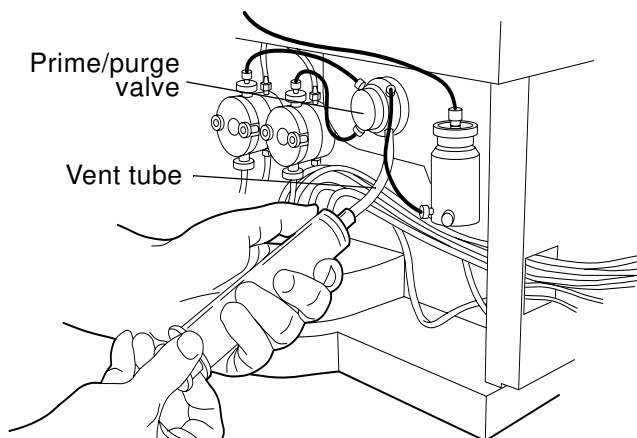

Figure 3-18 Syringe Attached to Luer-Lok Fitting on Prime/Purge Valve
1. Connect the 60 ml syringe (provided in the startup kit) to the Luer-Lok® fitting at the end of the vent tube connected to the prime/purge valve (Figure 3-18). Open the valve one-half to one full turn to the left (counterclockwise).
1. Connect the 60 ml syringe (provided in the startup kit) to the Luer-Lok® fitting at the end of the vent tube connected to the prime/purge valve. See Figure 3-18 on page 3-30. Open the valve one-half to one full turn to the left (counterclockwise).
2. Connect the 60 ml syringe (provided in the startup kit) to the Luer-Lok® fitting at the end of the vent tube connected to the prime/purge valve. See Figure 3-18 on page 3-30. Open the valve one-half to one full turn to the left (counterclockwise).